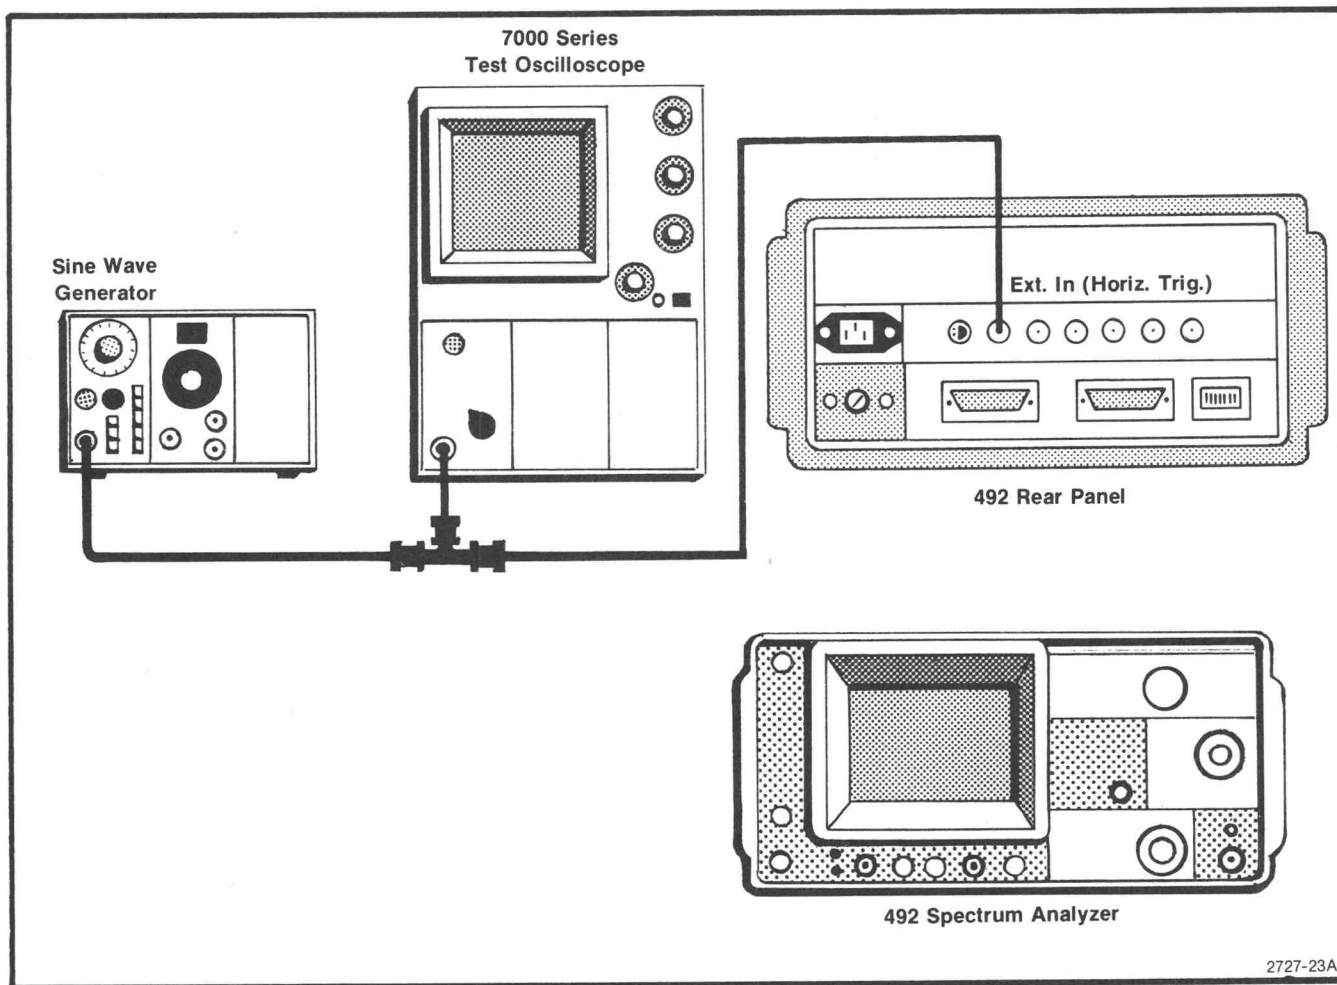

Fig. 3-19. Test equipment setup to check external triggering and horizontal input characteristics.
h. Disconnect the test equipment. Apply, through a BNC "T" connector and coaxial cable, the sine-wave generator output to the EXT IN HORIZ/TRIG connector on the back panel of the 492 (see Fig. 3-19). Monitor the input signal amplitude with a test oscilloscope.